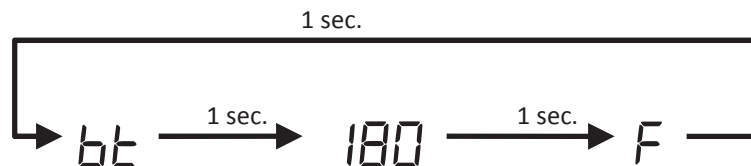

Figure 11.4: Typical Operating Mode Display (Boiler Temp Shown)
2. Operating Mode - Provides additional information about the current status of the boiler. Operating mode is entered by pressing the **I** button shown in Figure 11.1. When this button is first pressed in Status mode, the display will alternately display *bE* and the current boiler water temperature as shown in Figure 11.4. Pressing the **I** button again will display the next line item shown in Table 11.3. In the same manner it is possible to advance through all of the “parameters” shown in Table 11.3. To return to Status mode, press **I** repeatedly until *5E#* once again appears on the display. Alternatively, the control will return to Status mode if no key is touched for 30 minutes.
Note: In operating mode, holding either the \uparrow or \downarrow button while viewing a given parameter will keep the display on the actual reading. For example, pressing \uparrow while reading boiler temperature as shown in Figure 11.4 will keep the display on 180 for as long as the button is held. This makes it easier to view readings “live” if they are changing rapidly.